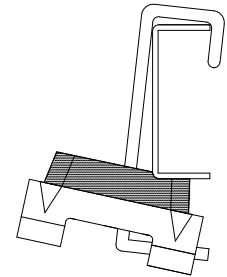

Figure 2
- Swing the **GenieClip C3** into place while gently pulling down on leading edge of the clip as shown in **Fig. 2**.